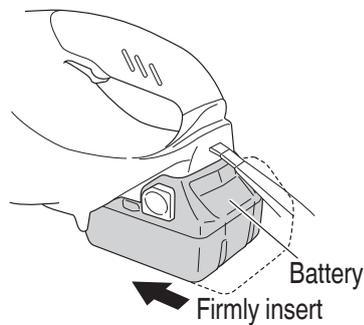

Fig. 15
3. Install the battery (Fig. 15)